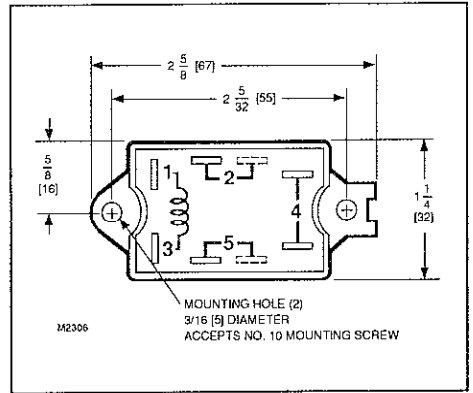

Fig. 2—R8800B installation dimensions.
2. Secure the R8222B and R8800B with two screws through the mounting holes in the base. Refer to Fig. 2 or 3.